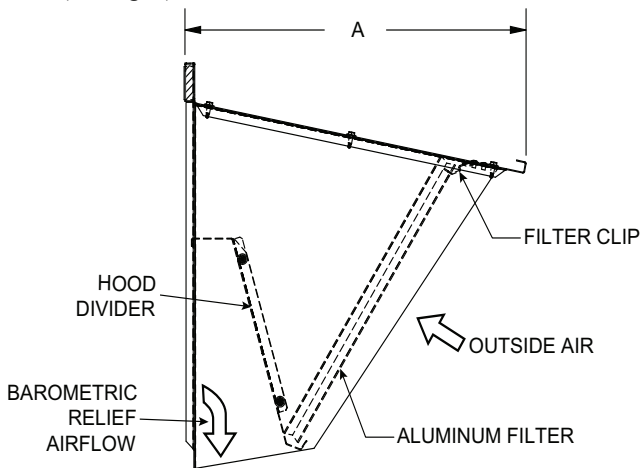
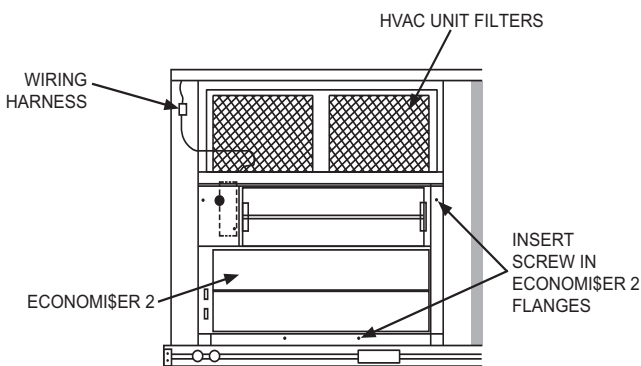
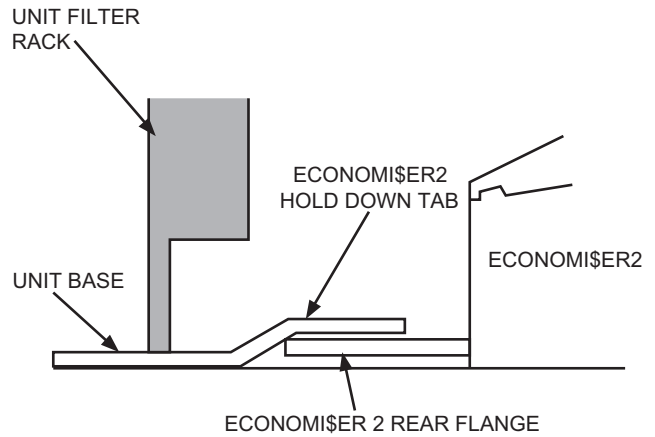

Fig. 5 — Fully Assembled Hood
Fig. 6 — EconoMiSer[®] 2 Installed on HVAC Unit (Small Cabinet Economizer Shown)
Fig. 7 — Rear EconoMiSer[®] 2 Flange Installation (Small and Large Cabinet)
6. The hood should now be fully assembled, see Fig. 5 for reference. Slide the EconoMiSer 2 assembly into the rooftop unit (see Fig. 6). On small and large cabinets be sure to engage the rear EconoMiSer 2 assembly flange under the tabs in the return-air opening of the unit base (see Fig. 7).
7. Secure the EconoMiSer[®] 2 assembly to unit along side and bottom flanges using the screws provided (see Fig. 6).
14. Install the economizer hood filter(s) by opening the filter clips which are located underneath the hood top. Insert the aluminum filter(s) into the bottom filter rack (hood divider). Push the filter into position past the open filter clips. Close the filter clips to lock the filter into place (see Fig. 5).